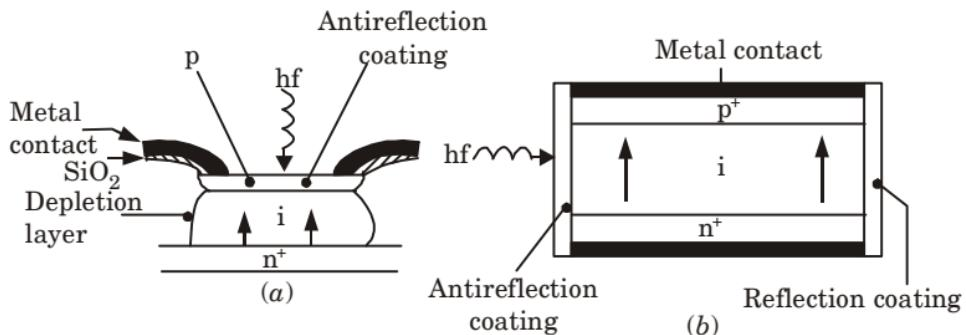

Fig. 23. (a) Structure of a front illuminated silicon p-i-n photodiode
- Fig. 23 shows the structure of two types of silicon $p-i-n$ photodiode for operation in the shorter wavelength band below 1.09 μm .